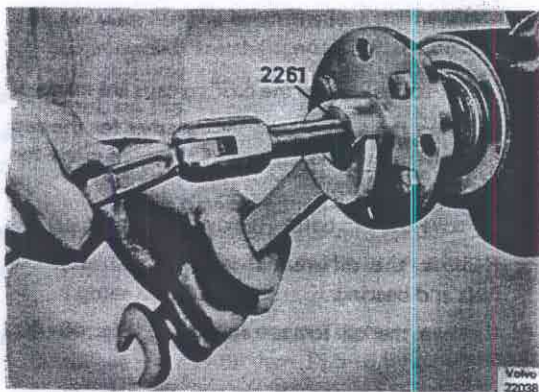
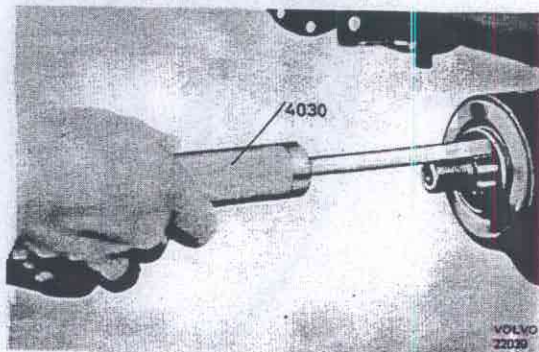

Fig. 46-42. Removing the flange
Fig. 46-43. Removing the seal
8. Remove the counterhold. Fit 2261 on the flange, Fig. 46-42. Remove the flange. Pull out the flange seal with 4030, see Fig. 46-43. Remove the oil deflector plate.